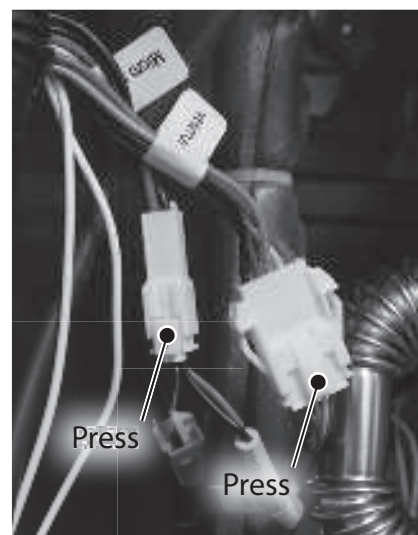

Figure 102 - Locate venturi wire harnesses
- 10** Locate the venturi wires (2x) and disconnect them as shown in Figure 102. Wires are labeled "Venturi" and "Micro Switch." These wires are connected at and run through the black cable conduit located on the left side of the water heater cabinet.